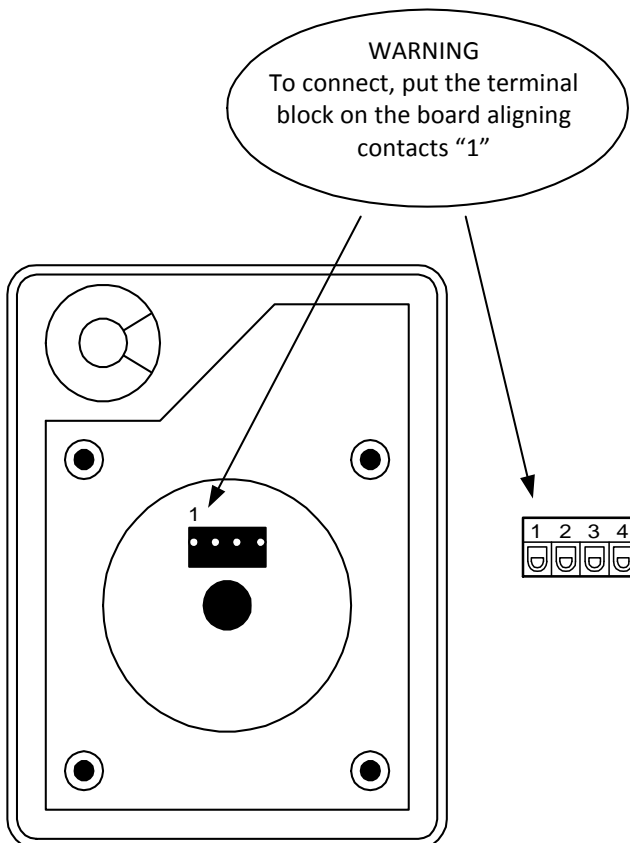
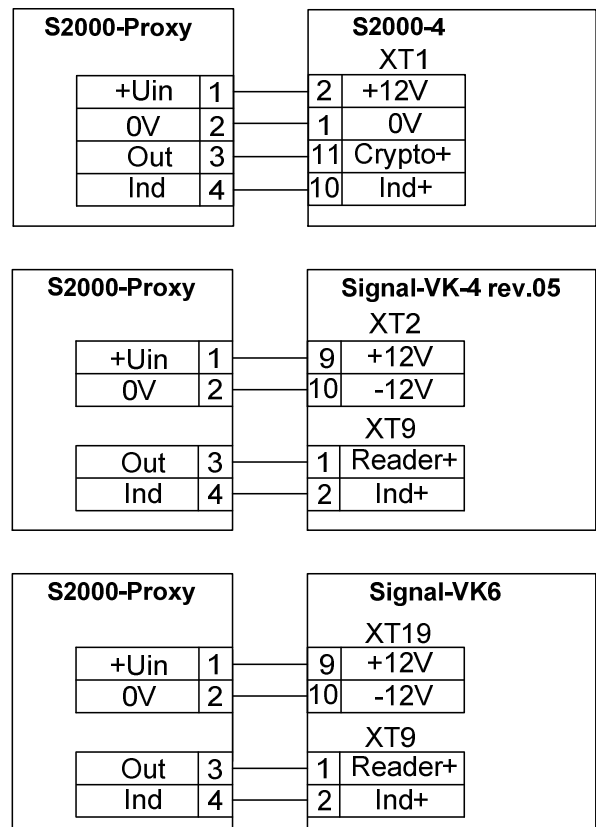

Figure 1
Figure 2
2.1.1 The reader is supplied with a pluggable terminal block to which wires are connected. When mounting, marking «1» on the pluggable terminal block must be aligned with the marking «1» of the contact on the reader board as shown in Figure 1. Figure 2 shows a typical diagram for connecting the reader with such fire and alarm panels as S2000-4, Signal-VK-4 rev.05, and Signal-VK6.